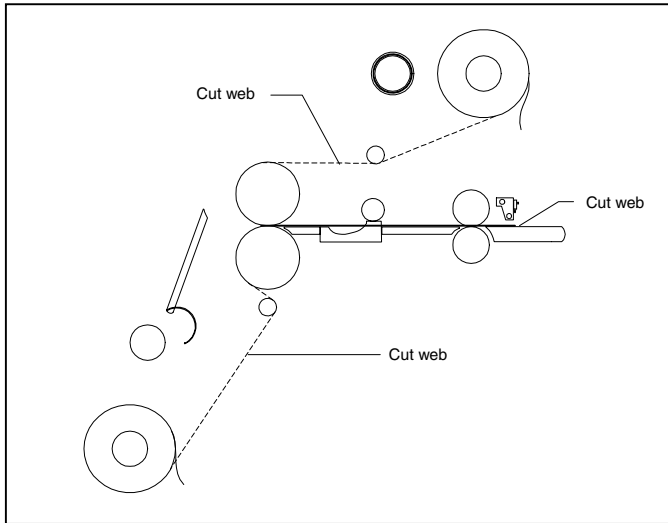

Fig. 33
1. Using the rear slit, cut the output from the web (Figure 33).
4. Cut remaining top and bottom film webs between supply rolls and heat rollers (Figure 33). **Be careful not to cut any of the rollers!**